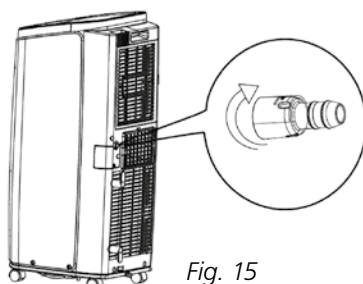

Fig. 15
- 2 Connect the supplied hose grommet H (see fig. 1) to this drain (see fig. 15).